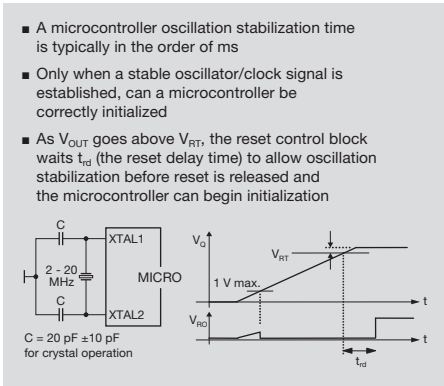
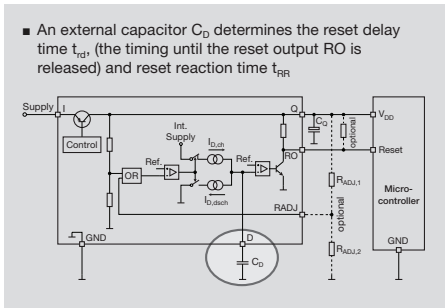

Figure 9.35 Power-On Reset Delay
Figure 9.36 Reset Timing
Most control modules have a microcontroller and an accompanying clock oscillator. When a microcontroller is first turned on the clock oscillator requires a stabilization period typically in the order of 1 to 10 ms. If a microcontroller begins operating before the oscillator is stable, the microcontroller may not initialize correctly. Linear regulators equipped with the reset function provide a power-on reset delay which prevents a microcontroller from initializing while the oscillator is still stabilizing. Referring to Figure 9.35 and Figure 9.36, a reset output (RO) signal from a linear regulator is asserted low (0 V) and actively holds the microcontroller in the reset state for a certain delay time  $t_{rd}$ . The reset delay time  $t_{rd}$  is measured from the time where the output voltage has increased above the reset threshold voltage  $V_{RT}$  to the time the reset output is released (goes high).
The length of the reset delay time may be set with a small external capacitor. In addition, the capacitor also sets the reset reaction time  $t_{RR}$ . The reset reaction time is the minimum time the output voltage must be below the reset threshold before an under voltage reset output signal is generated (Figure 9.36).